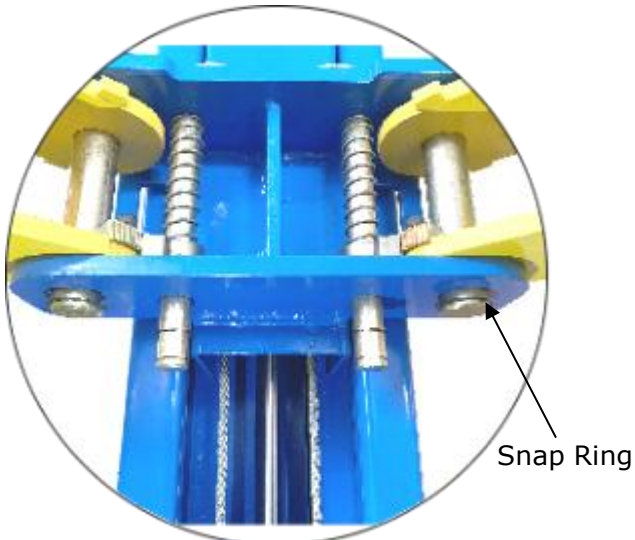
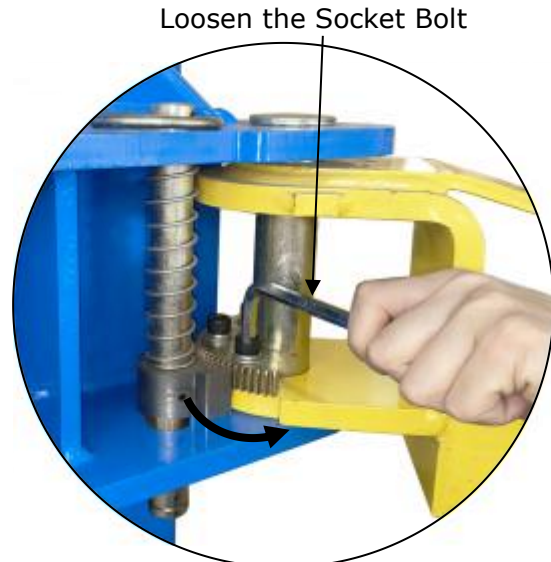
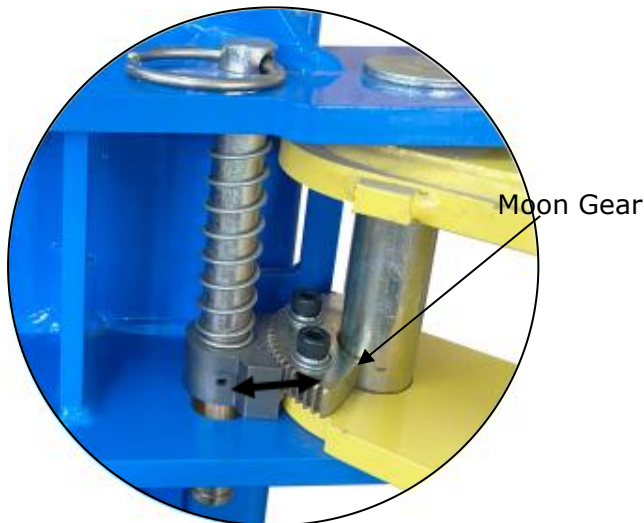
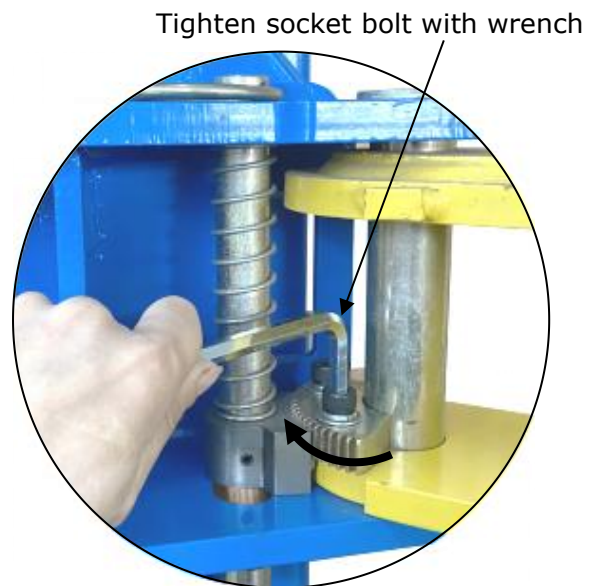

Fig. 42
Fig. 43
Fig. 44
Fig. 45
P. Install lifting arms (See Fig. 42); Lower the carriages to the lowest position, then use a 10# socket head wrench to loosen the bolt.(See Fig.43); Adjusted moon gear as direction of arrow (See Fig.44); Adjusted the moon gear and arm lock to mesh, then tightened the socket bolts of arm lock (See Fig.45).
2. Connecting the limit switch wire: Remove the short wire that connects # 4 and # A2 as shown in Fig.45. Then according to the wire number of the limit switch, connect them respectively to terminal 4# of control button and A2# of AC contactor.